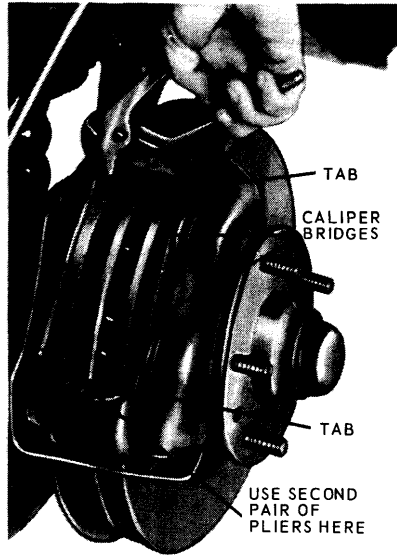

FIG. 19—Removing Disc Brake Shoe and Lining Assembly
4. Grasp the metal flange on the outer end of the shoe with two pairs of pliers and pull the shoe out of the caliper (Fig. 19).